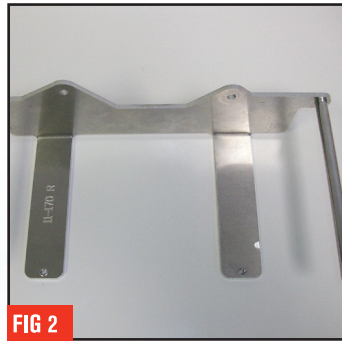

FIG 2
**6** Use 2 of the supplied 6x16mm button head bolts to install 2 of the supplied support rods on the big brace half marked with an "R". **(Figure 2)** Use 1 of the supplied 6x16mm button head bolts to install 1 of the supplied support rods on the top of the big brace half marked with an "L". **NOTE:** The left side bottom support rod cannot be installed until after step 10 is complete.